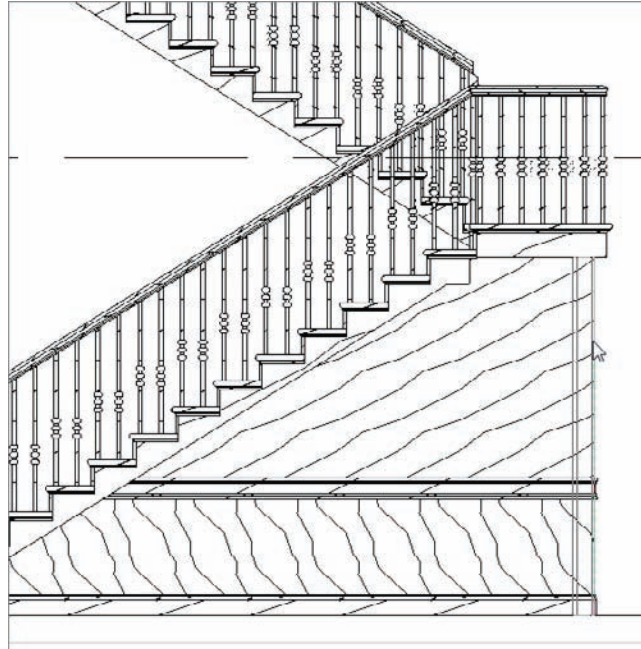

FIGURE 16.18 Placing the sweep on the corner
11. Place a vertical rail at the right corner, as shown in Figure 16.18.